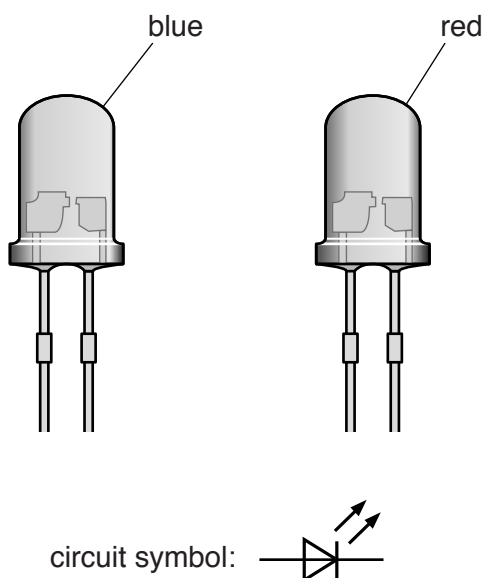

Fig 1.1
- 1 A student is investigating the characteristics of different light-emitting diodes (LEDs). Fig. 1.1 shows examples of LEDs and the circuit symbol for an LED.